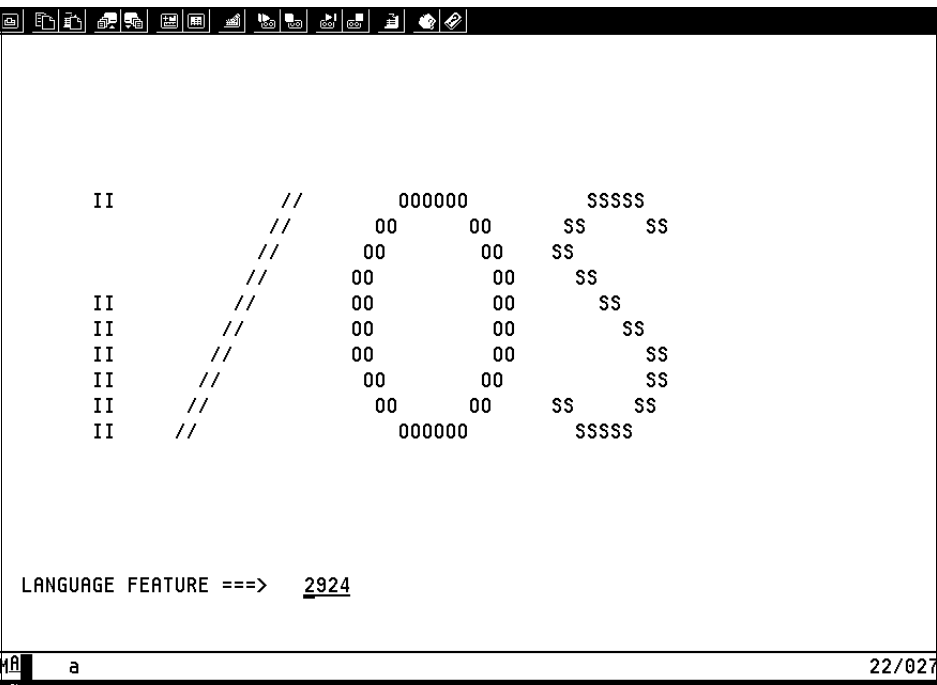

Figure 7-48 LIC initial installation screen
4. After connecting the IBM System i for Windows LAN console, the screen shown in Figure 7-48 appears. The default language feature for English is 2924. This can be changed on the next screen.